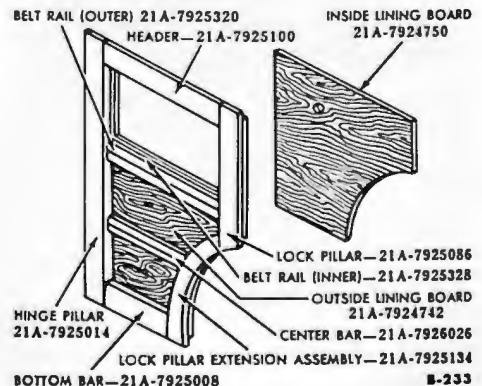

Fig. 2—Rear Door Assembly
(1) **HEADER REPLACEMENT (fig. 2).** Remove the side mouldings and glass run. Saw the header off near the lock pillar and the hinge pillar. Remove the screws from the joints. Using a chisel, clean the pillar joints. Install a new header, using glue to secure the joints. Clamp the joints until the glue is set to ensure a tight joint. Install the screws in the joints. Install the glass run and the side mouldings.
(2) **LOCK PILLAR REPLACEMENT (fig. 2).** Remove the inside lining board, hardware, glass, inside mouldings, and belt rail. Saw the pillar off at each joint, being careful not to cut the outside lining. Remove the screws from the joints. Using a chisel, clean the joints. Install the new pillar, using glue to secure the joints. Install the screws in the joints. Install glass, inner lining, inside belt rail, inside mouldings, and hardware.
(3) **LOCK PILLAR EXTENSION REPLACEMENT (fig. 2).** Remove the inside lining board and hardware. Saw the lock pillar extension off at the joints, being careful not to cut the outside lining board. Remove the screws from the joints. Using a chisel, clean the joints. Install the lock pillar extension and glue the joints. Clamp the joints until
(4) **BOTTOM BAR REPLACEMENT (fig. 2).** Remove the screws and hardware necessary to remove the inner lining board, and remove the board. Remove the lock pillar extension. Saw the bottom bar off near the hinge pillar. Remove the screws from the joints. Using a chisel, clean the joint in the hinge pillar. Install the new lock pillar and bottom bar, using glue on the joints. Clamp the joints until the glue is set to ensure a tight joint. Install the inner lining board, screws, and hardware.
(5) **HINGE PILLAR REPLACEMENT (fig. 2).** Remove the inner lining board, hardware, glass, and inner belt rail inside mouldings. Saw the pillar off the joints, being careful not to cut the outside lining board. Remove the screws from the joints. Using a chisel, clean the joints. Install the new pillar, using glue on the joints. Clamp the joints until the glue is set to ensure a tight joint. Install the inner belt rail inside moulding, glass, inner lining board, and hardware.
(6) **CENTER BAR REPLACEMENT (fig. 2).** Remove the necessary hardware, and the inside lining board. Remove the screws that hold the center bar to the outside lining board. Knock the center bar off (lock pillar extension end first). Clean the joints. Install the new center bar, using glue on the joints. Install the inside lining board and the hardware.
(7) **OUTER BELT RAIL REPLACEMENT (fig. 2).** Remove the hardware, inside lining board, glass, inside mouldings, and inside belt rail. Remove the lock pillar. Saw the outer belt rail off at the hinge pillar. Using a chisel, clean the joint in the hinge pillar. Install the new belt rail and lock pillar, using glue on the joints. Clamp the joints until the glue is set to ensure a tight joint. Install the screws in the joints. Install the glass, inside belt rail, inside lining board, inside mouldings, and hardware.
(8) **OUTSIDE LINING BOARD (fig. 2).** Remove the inside lining board, glass, hardware, inside belt rail, and inside moulding. Remove the hinge pillar. Remove the screws that secure the outside lining board. Place the lock pillar in a vise equipped with padded jaws. Work the outside lining board back and forth, and at the same time tapping to break it loose to prevent damaging the lock pillar and lock pillar extension. Remove the outside lining board. Clean out the grooves and rabbets. Install the new outside lining board and hinge pillar to the lock pillar, using glue on the joints. Install a clamp on the joints to hold them in place until the glue is set. Install the screws, glass, inside belt rail, inside mouldings, inside lining board, and hardware.